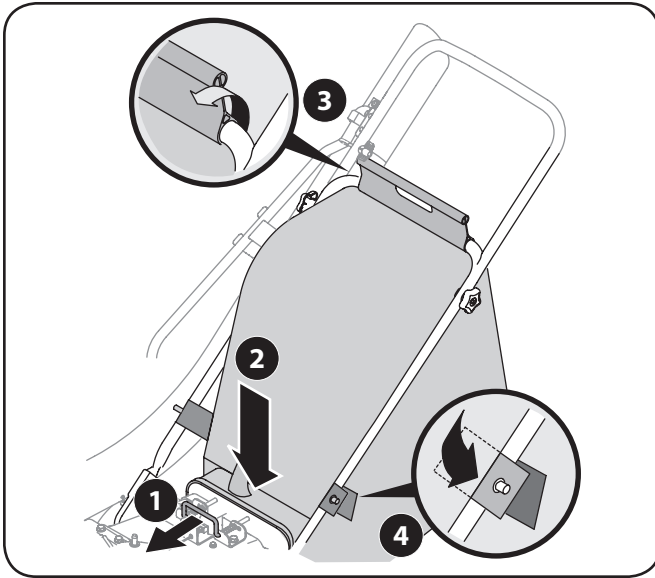

Figure 3-6
1. Grasp bag handle with one hand and slide locking rod on mounting bracket with other hand toward engine. Use the end of mounting bracket as leverage when sliding the locking rod. See Figure 3-6.
4. Place the lower straps on the bag over the top of lower handle, hooking them on the studs. See Figure 3-6.